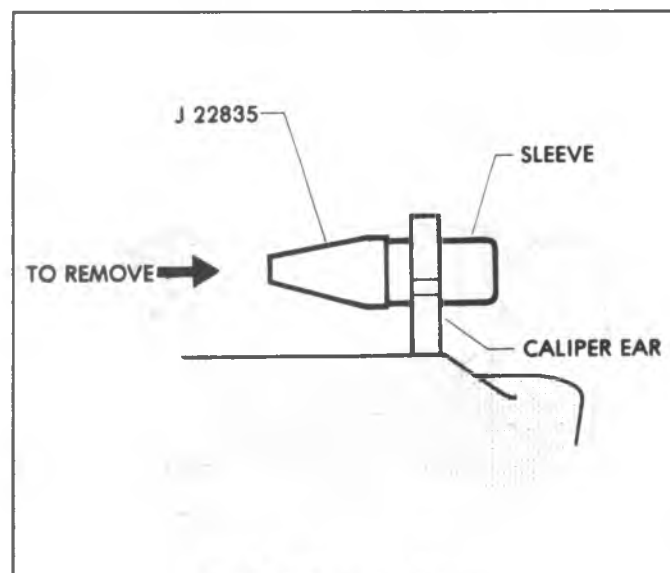

Fig. 5-22—Removing Sleeves
4. Using Tool J-22835, remove the sleeves from the inboard ears of the caliper (fig. 5-22). Next, remove the rubber bushings from the grooves in each of the four caliper ears.